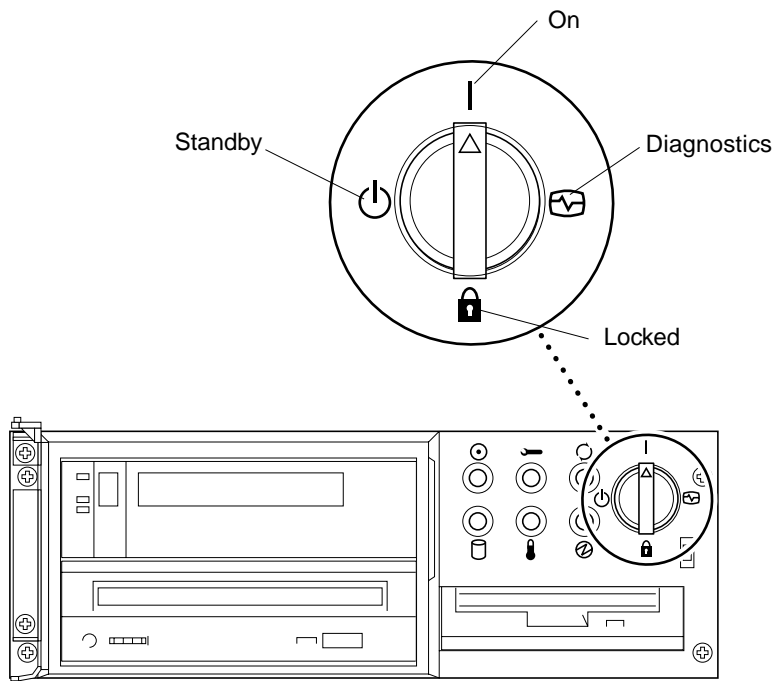

FIGURE 4-5 Sun Enterprise 450 and Sun Ultra 450 Keyswitch Location
When the switch is set to the Locked position (FIGURE 4-5), the flash PROM is write-protected. When the switch is set to the On or Diagnostics position, the flash PROM is write-enabled.
- Turn the keyswitch to the On or Diagnostics position (FIGURE 4-5) before updating the flash PROM.